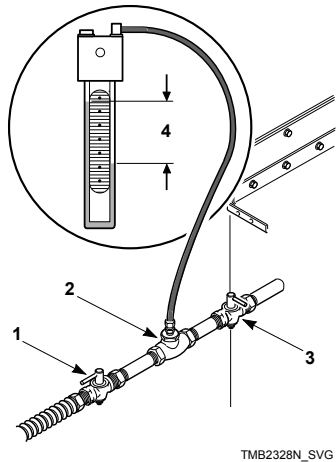

Figure 15
1. Disconnect electrical power from tumble dryer. Close gas shut-off valve to tumble dryer. Refer to *Figure 15*.